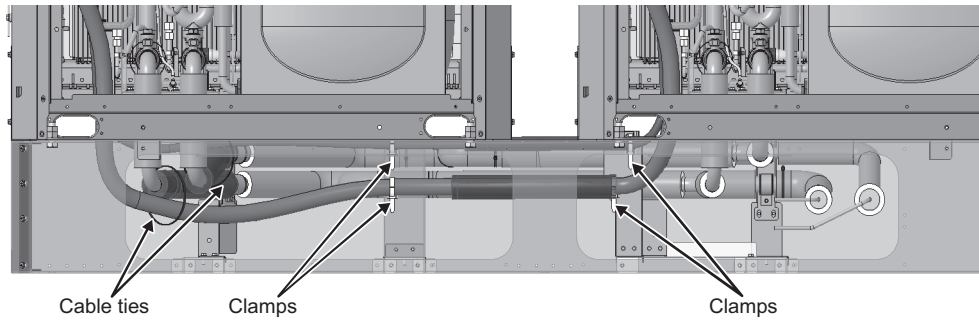

Fig. 4
- (4) Cut the cable ties, and remove the power supply cable and the communication cable from the clamps. (Fig. 4)